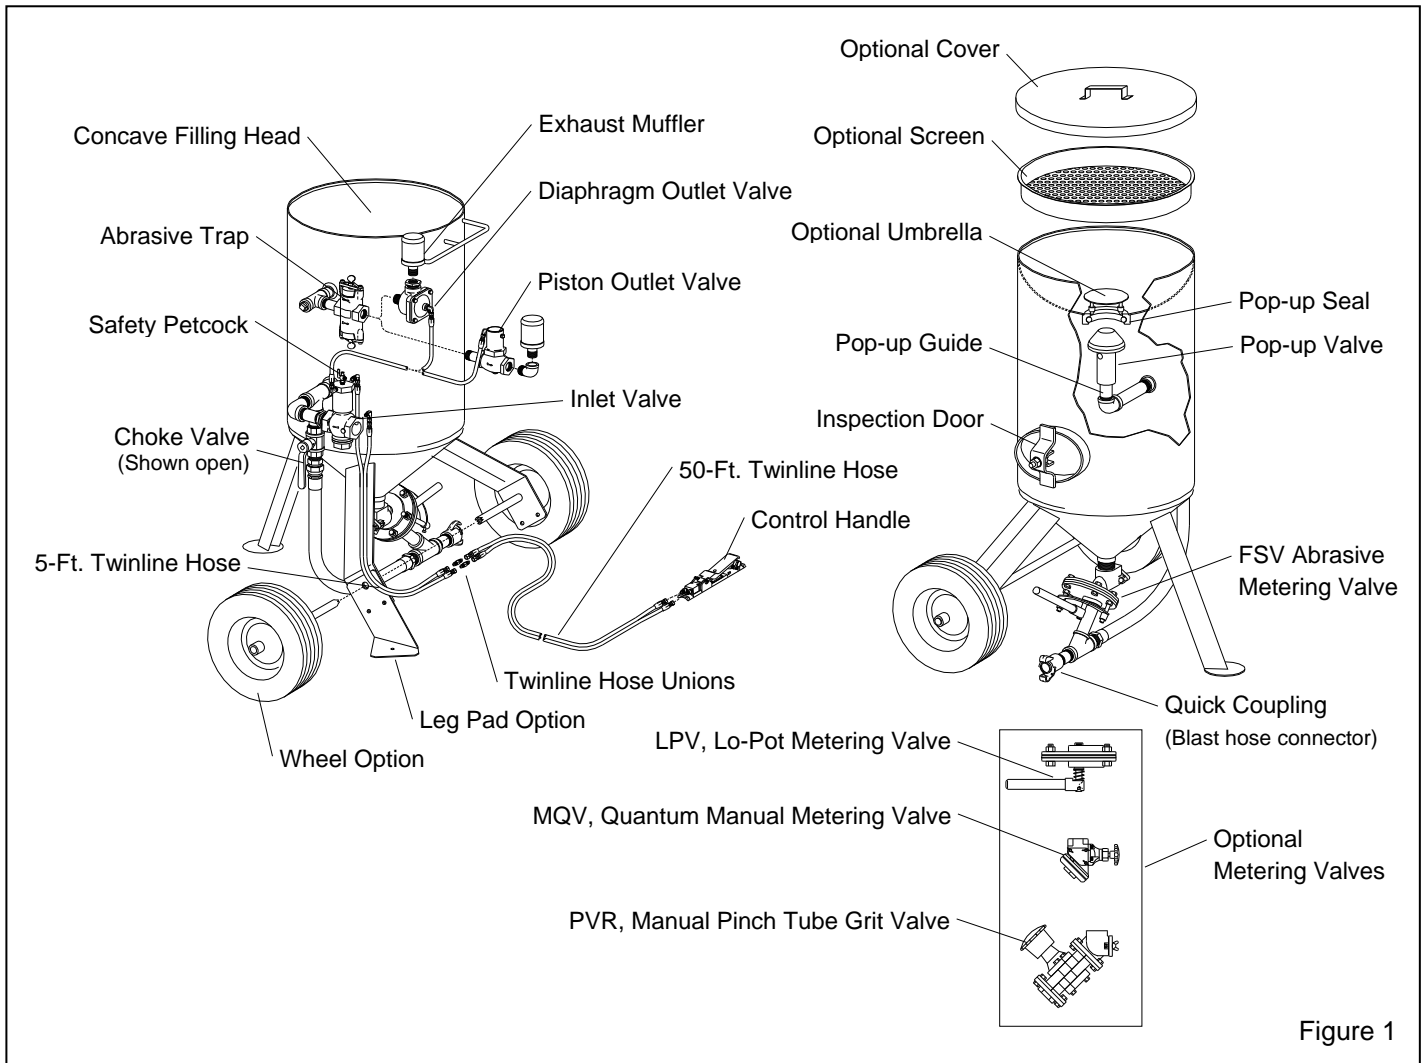
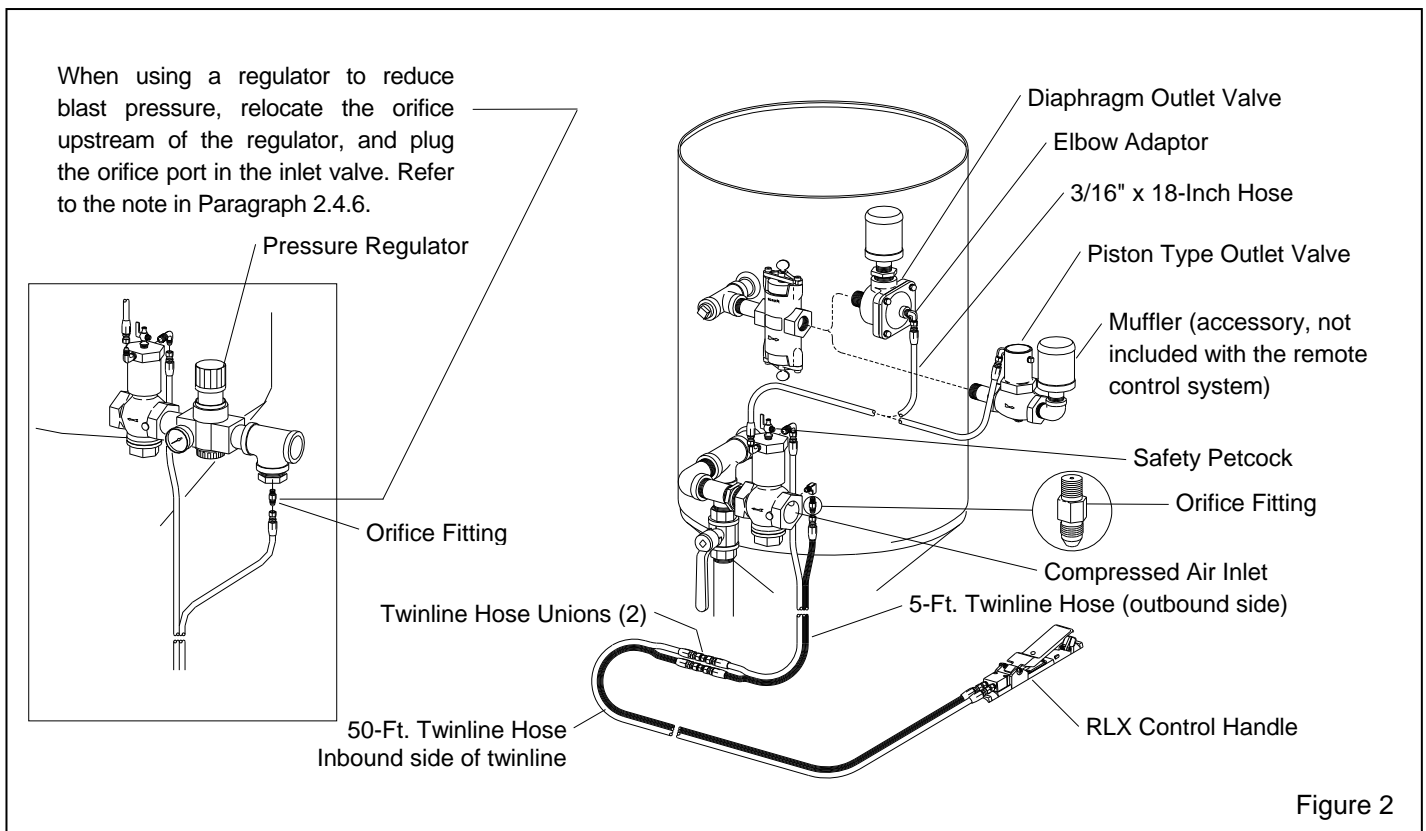

Figure 1
Figure 2
**1.3.1.1** The primary components of the blast machine and the remote control system are shown in Figure 1. Additional components of the remote controls are shown in Figure 2. Additional parts used with optional ACS abrasive cut-off system are shown in Figure 5.
1.3.3.3 The components of the remote control system are shown in Figures 1 and 2. They include the inlet valve, piston or diaphragm outlet valve (the piston valve is used in most applications, the diaphragm valve is recommended for use with fine mesh or aggressive abrasive), RLX control handle, 50-ft. and 5-ft. long twinline control hoses, 2 control hose unions, and an 18-inch-long interconnecting hose.
**1.3.3.5** Clemco remote controls operate pneumatically on a return-air principle. A stream of control air travels from the orifice on the inlet valve, down the outbound twinline (Shown shaded in Figure 2) and escapes through the opening located under the control handle lever. The normally-closed inlet valve remains closed, and the normally-open outlet valve remains open. As long as air escapes through the handle's opening, the remote control system remains inactive. When the lever is pressed, a rubber button seals the opening, and outbound air returns through the inbound line to open the inlet valve and close the outlet valve. This action pressurizes the blast machine and begins the blasting. Releasing the handle exhausts the control air, which causes the inlet valve to close, and the outlet valve to open to depressurize the blast machine and stop the blasting.
Clemco supplies an exhaust muffler with all blast machines of 2 cu. ft. capacity and larger. The muffler reduces exhaust noise and prevents abrasive from exhausting upward or sideways into the air. When the blast machine is depressurized, the muffler body pops up to diffuse the air and abrasive. When the machine is fully depressurized, the muffler body drops, permitting trapped abrasive to empty. For the muffler to work properly, it must be installed with the body facing up, as shown in Figure 1.
**2.4.6** Attach the 5-ft. twinline control hose to the inlet valve as shown in Figure 2; one side of the hose connects to the unused upper elbow, the other to the orifice fitting
NOTE: When using a pressure regulator to reduce blast pressure below 60 psi (80 psi when using an ACS), relocate the orifice upstream of the regulator as shown in the insert in Figure 2, and plug the orifice port in the inlet valve. This allows the pneumatic control circuit to operate at line pressure.